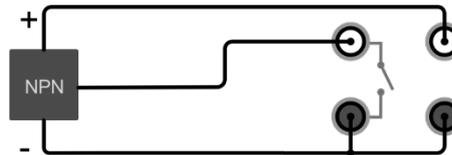

Figure 12 NPN Switch
- ◆ If NPN electronic switch is selected, connect the electric circuit as shown in Figure 12.